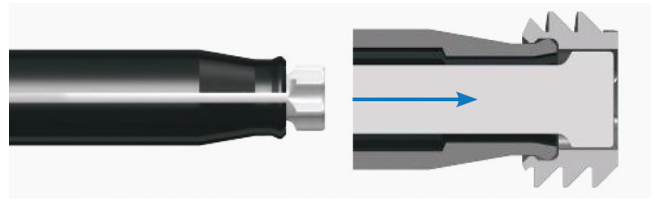

Figure 35
- Use the self-retaining tip of the cap inserter (Figure 35) to pick up a set screw seated in the caddy.